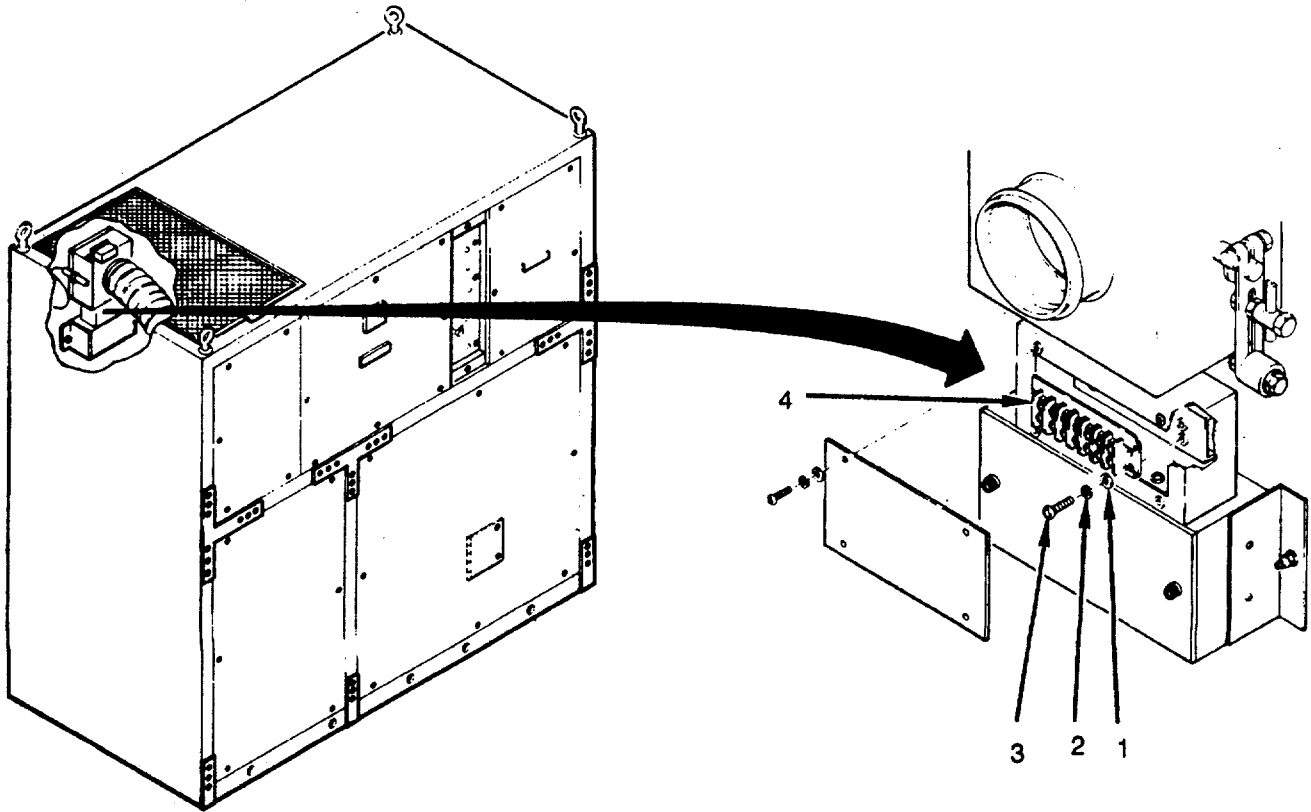

Figure 4-67. Terminal Board (TB4)
1. Check terminal board (4) for loose or corroded terminals, cracks and obvious damage. Replace terminal board, if defective (see Figure 4-67).